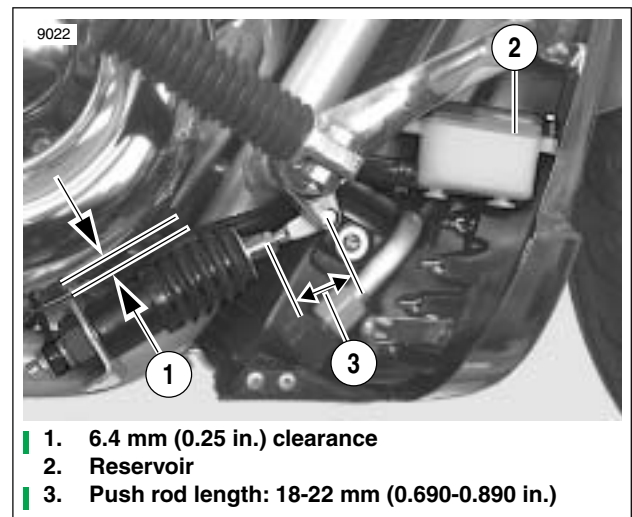

Figure 6-14. Rear Brake Pedal Adjustments
See Figure 6-14. If master cylinder or reservoir hose does not have 1/4 in. clearance, item (1), from exhaust pipe, loosen and reposition exhaust to obtain the 1/4 in. clearance. Refer to VRSC Model Service Manual for exhaust system instructions. Contact with the hot exhaust pipe could cause fluid leakage and reduced braking which could result in loss of vehicle control and death or serious injury.
3. See Figure 6-14. Check push rod length (3). Loosen jam nut and turn push rod with a wrench placed on push rod wrench flats if adjustment is required.